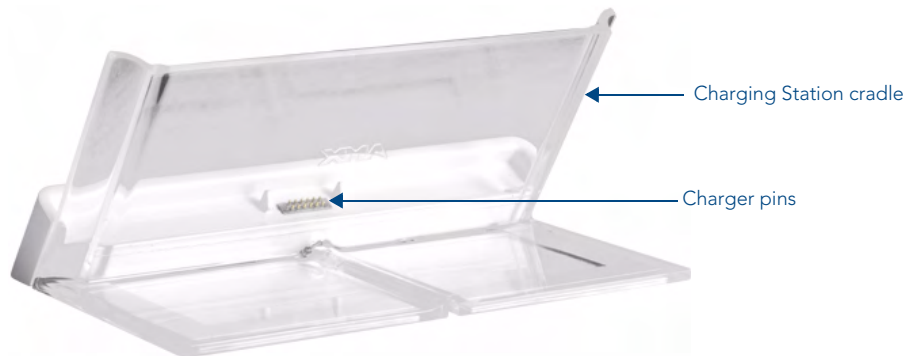

FIG. 7 MVP-TCS-52-GW Table Charging Station - Rear
- Place the touch panel in the Charging Station cradle (FIG. 6), guiding it into place with the locking grooves on each side of the cradle (FIG. 7). When fully seated, the touch panel's charging station connector should be in contact with the Charging Station's charger pins.
To recharge the MVP-5200i, slide the device into the Table Charging Station cradle bottom-first and make sure the device is fully seated in the Charging Station. The charger pins in the bottom of the cradle (FIG. 7) must be in contact with the connector on the bottom of the MVP-5200i for it to start recharging. The MVP panel will stop recharging automatically once the battery has achieved its maximum charge.